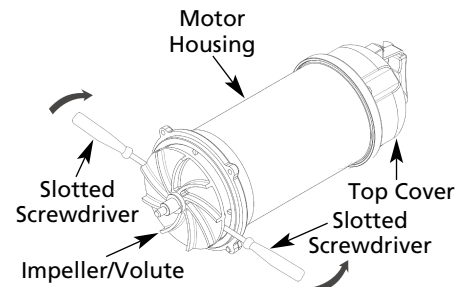
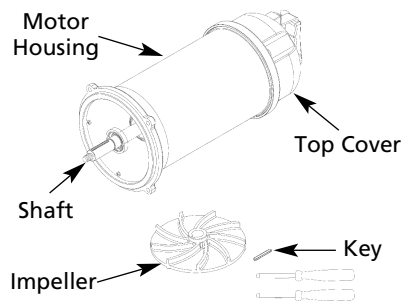

Figure 11
Figure 12
3. Remove the screw on the volute using the slotted screwdriver (Figure 11). Dismantle the volute and use the slotted screwdriver to raise the impeller slightly and remove it from the shaft (Figure 12). Clean and examine the impeller for pitting or wear and replace it if damaged.
To reinstall the impeller of Models 11A341 thru 11A345 onto the end of the shaft, match the key of the shaft to the concave of the impeller. Then clean the volute and screw back on as in Figure 11. To reinstall the cutter of Models 11A341 thru 11A345 onto the end of the shaft, match the key of the shaft to the concave of the cutter. Replace the nut, washer and washer spring. Torque to 40 ft. lbs. Rotate the cutter freely. Put the shredding ring back on and screw on the cutter stand.
2. Then remove the elbow, cutter, shredding ring, volute and impeller. Once the impeller is removed from the shaft take out the oil seal from the cavity of the impeller and secure the key of the shaft for reassembly (Figure 12). Examine the oil seal for wear and replace it if required. Refer to "Cutter, Impeller and Volute Service".